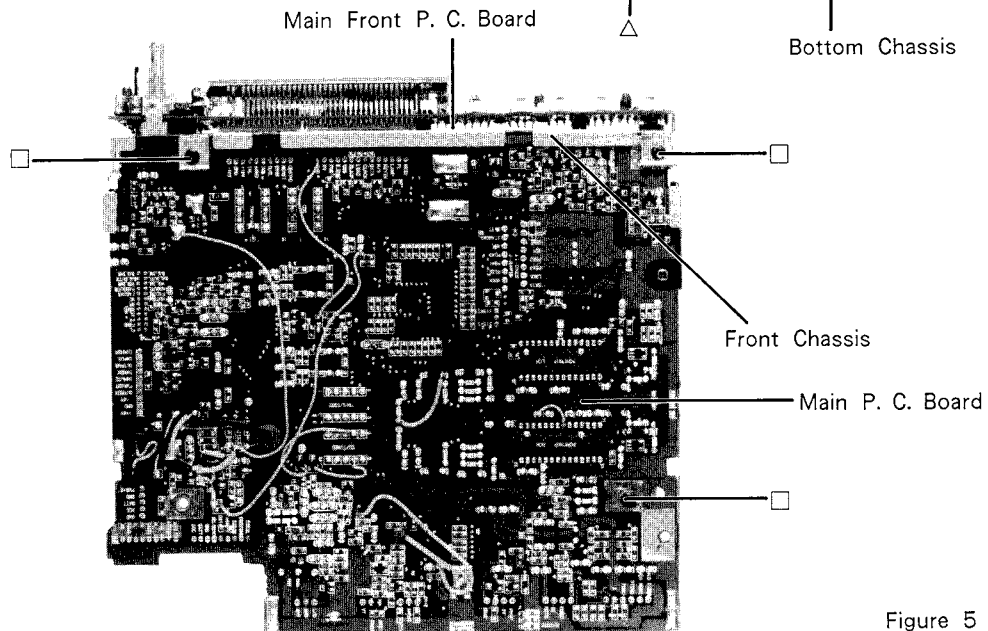

Figure 5
- (1) After removal of the Main P.C.Board, remove three screws marked with "□" as shown in Figure 5.
- (2) Disconnect two connectors to the Main P.C.Board, while lifting up the CD Mechanism.